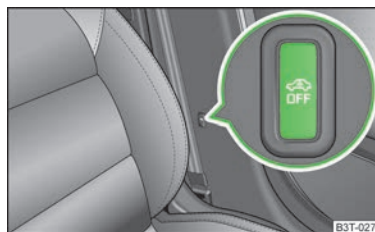

Fig. 14
- > Press the button  » Fig. 14 on the centre column on the driver side, the symbol  that lights up in the button changes from red to orange.